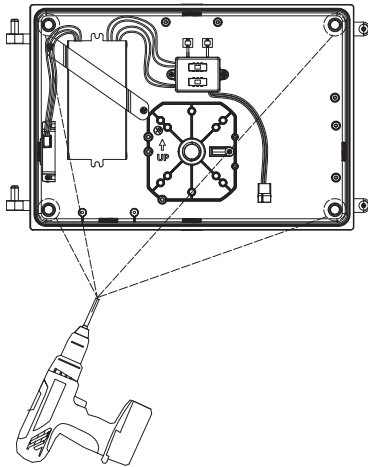

Fig. 11
3. Drill four (4) holes in the corners of the backplate. (See Fig. 11)